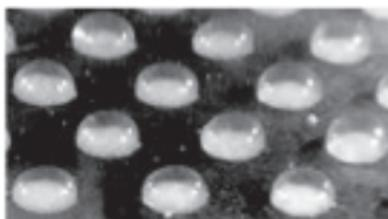

Fig. 1
8. Once the timer beeps, check the microdomes to see if they are all ready to harvest - raised, clear and shiny. (Fig.1)